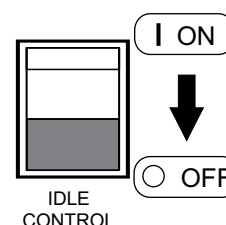

Figure 25. Idle Control Switch (OFF)
- Place idle control switch (Figure 25) in the **OFF** position. This will allow the engine speed to run at about 3600 RPM's.
Placing the idle control switch in the **OFF** position (Figure 25) allows the engine to operate at a maximum speed of about 3600 RPM's.